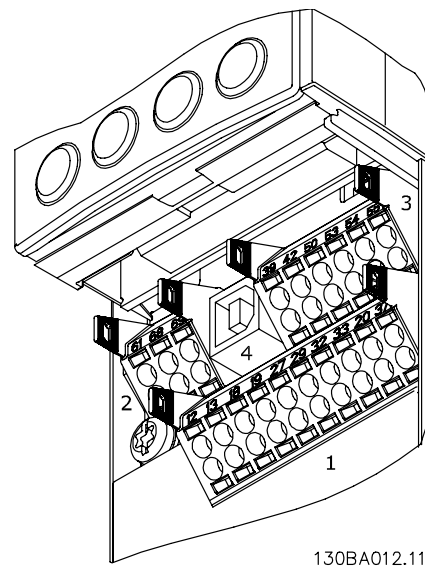

**Figure 3-8. Control Terminals Access**
- For units 5 hp or less (208 V) and 10 hp or less (480 V), remove access cover plate with screw driver. (See Figure 3-8.)
- For larger size units, remove front cover of unit to access internally mounted control terminals. (See Figure 3-8.)